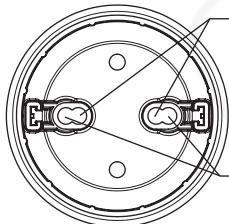

Fig. 7: Spindle lead-through
- ▶ Use only the spindle lead-through that matches the actuator size (see "Fig. 7.").
- Push the switch spindles through the matching spindle lead-throughs. The outside lead-throughs are designed for actuator size RV70/110, while the inside lead-throughs for actuator size RV50 (see "Fig. 7.").